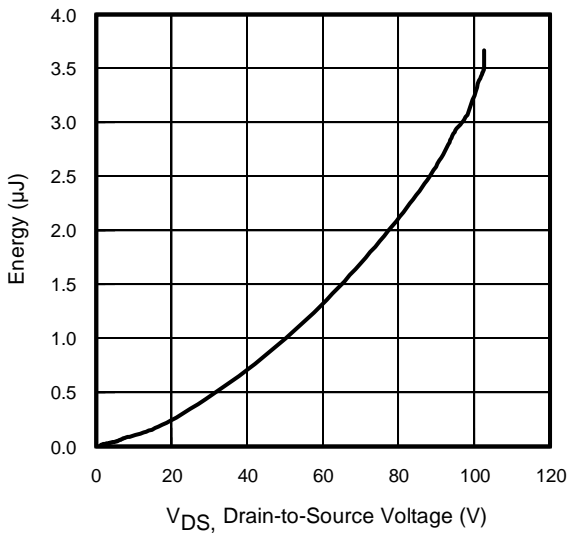

Fig 11. Typical C_{OSS} Stored Energy
| C _{oss eff. (ER)} | Effective Output Capacitance (Energy Related)⑦ | — | 650 | — | | V _{GS} = 0V, V _{DS} = 0V to 80V ⑧, See Fig. 11 |